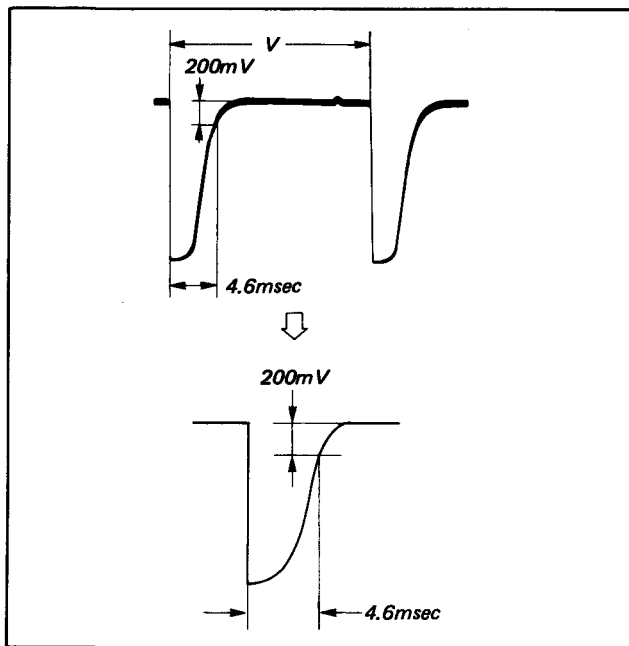

Fig. 2-21
- 2) Turn RV525 of VC-2 board so as to align the point where the voltage is 200mV lower than the full voltage value with the point of $4.6 \pm 0.2\text{mS}$ as shown below. (Fig. 2-21)